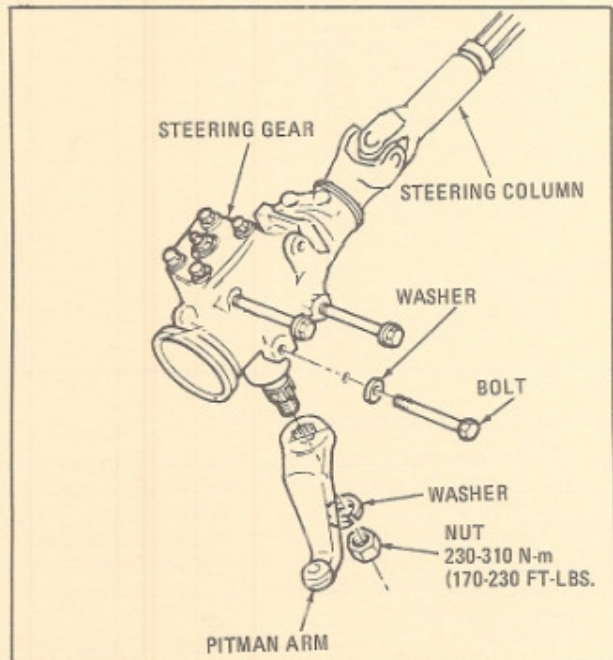

Figure 140 – Power Steering Gear Installation
4. Remove the nuts that secure the cardan joint to the steering column shaft assembly (see figure 140).
1. Mount the steering gear in a vise (see figure 140).
3. Working through the hole in the housing (figure 140), unseat the retaining ring and work it out of the groove with a screwdriver.
6. Turn the rack-piston end plug (figure 140), counterclockwise out of the piston using a 1/2-inch drive extension.